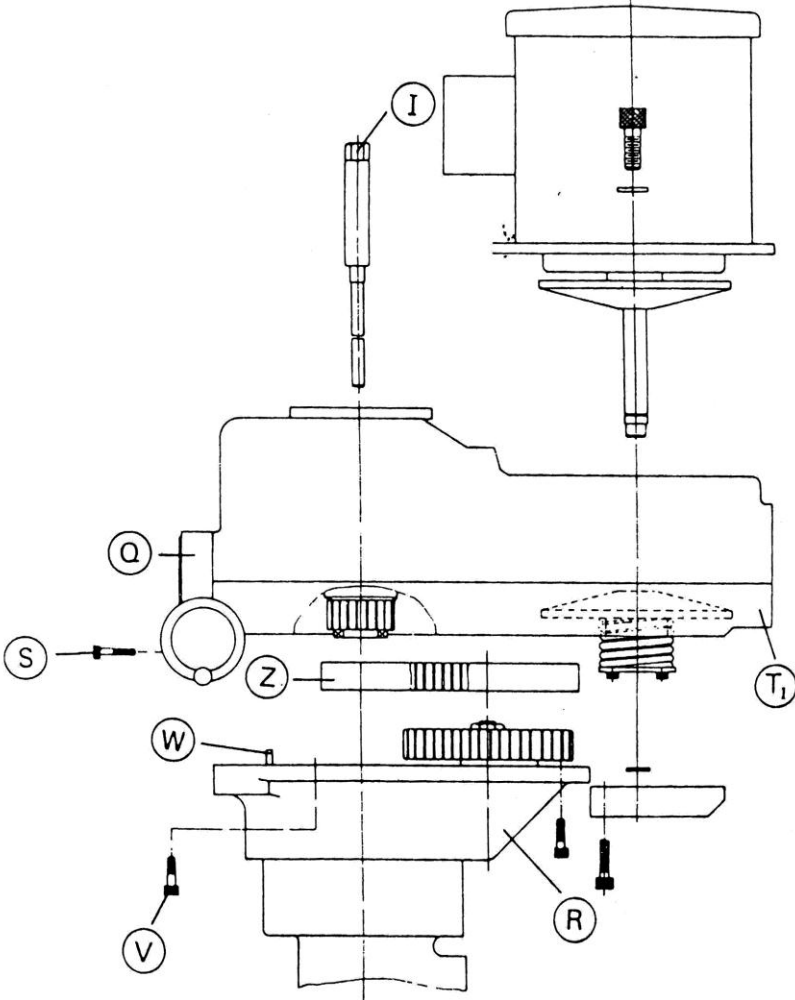

Figure 28
- b. Remove the four bolts “V” (Fig. 28) so housing “T1” can be removed. It may be necessary to use a soft mallet. (Housing “T1” and “R” are pinned together).
- b. Change the timing belt as shown in Fig. 28.